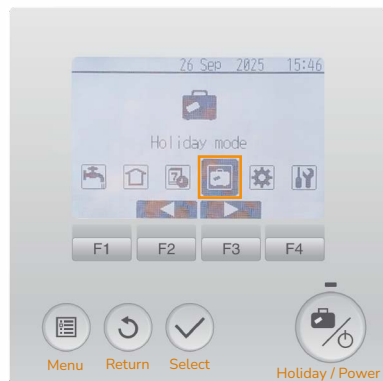

figure 10
2. Move the cursor to “Holiday mode”, select, (figure 10).